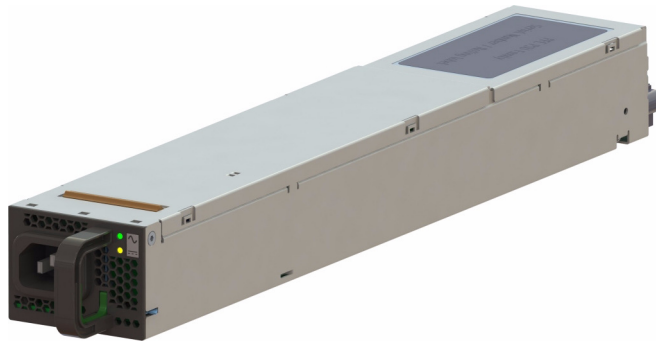

Figure 4-3 Power Supply Module
2. Locate the failed unit in the specified chassis: its amber service LED should be lit, indicating a fault (see Figure 4-3).